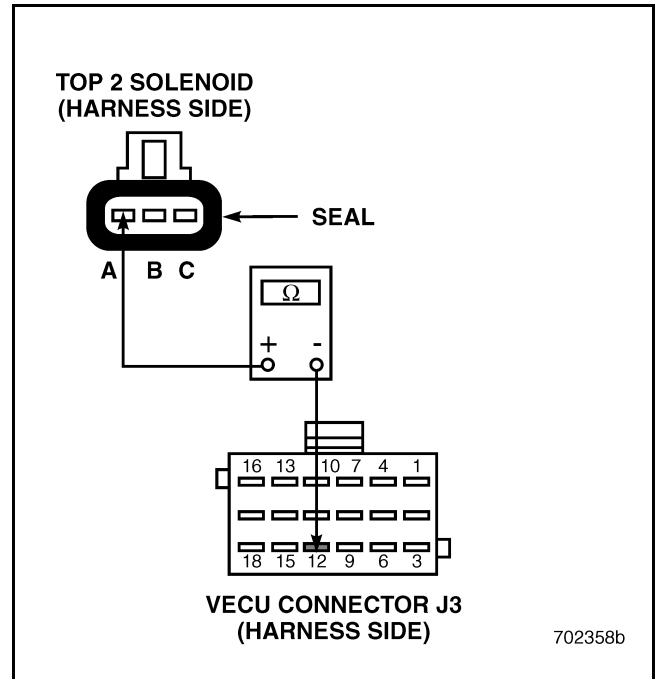

Figure 477
2. Check for continuity between pin A on the harness side of the Top 2 solenoid valve connector and VECU connector J3, pin 12 (see Figure 477).